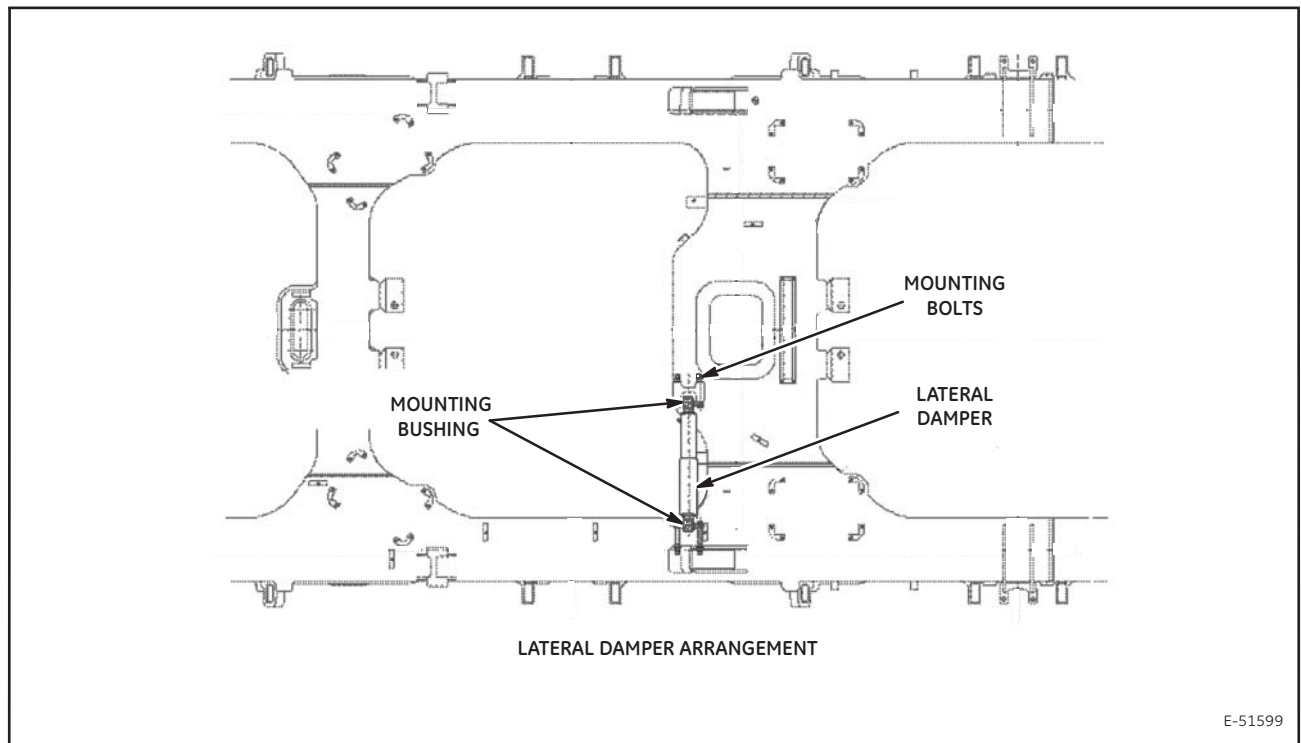

Figure 10. Lateral Damper Arrangement
The vertical dampers (or primary dampers) are located only at the end axles, parallel between the primary coil springs mounted on the outer cover (Figure 10).
1. Remove all four bolts and washers from each set of damper mounting bosses (Figure 10).